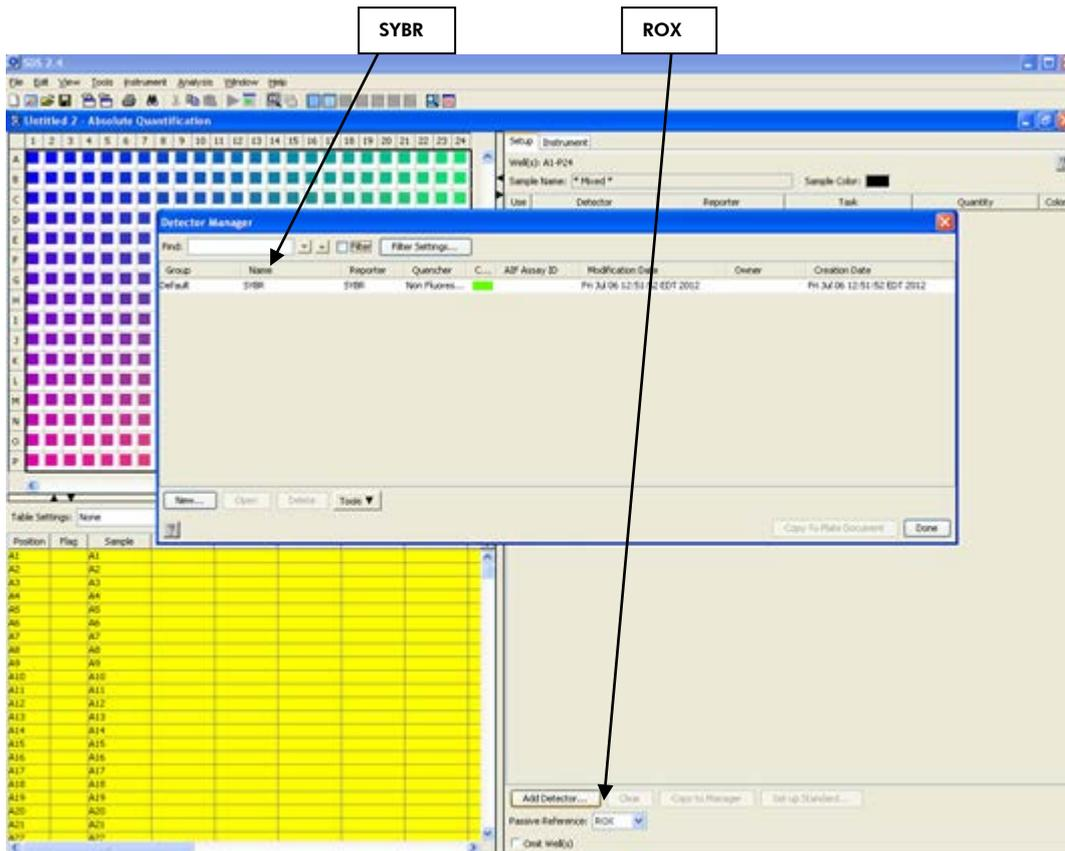

Figure 1. Plate setup — selecting dye.
- Click "Done" button (See Figure 1).